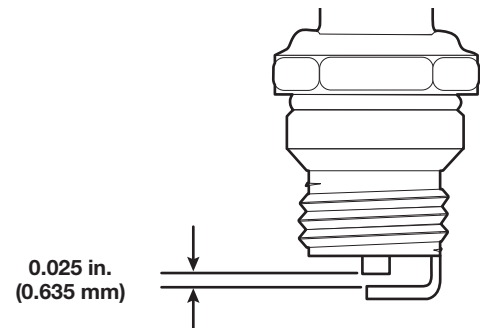

Fig. 36
4. Use a feeler gauge to set the air gap at **0.025 in. (0.635 mm)** (Fig. 36).